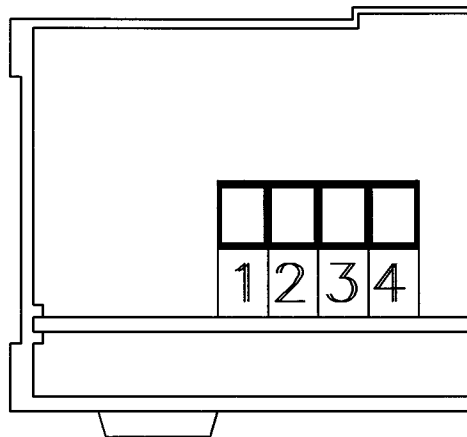

Fig 3 Location of DIP switches
7.1 To remove the modem's front end cap, insert a screwdriver into the notch on the side of the front end cap, then twist the screwdriver slightly to loosen the end cap. When the end cap is removed, you will see a set of four DIP switches on the left side of the board, (refer to fig 3).